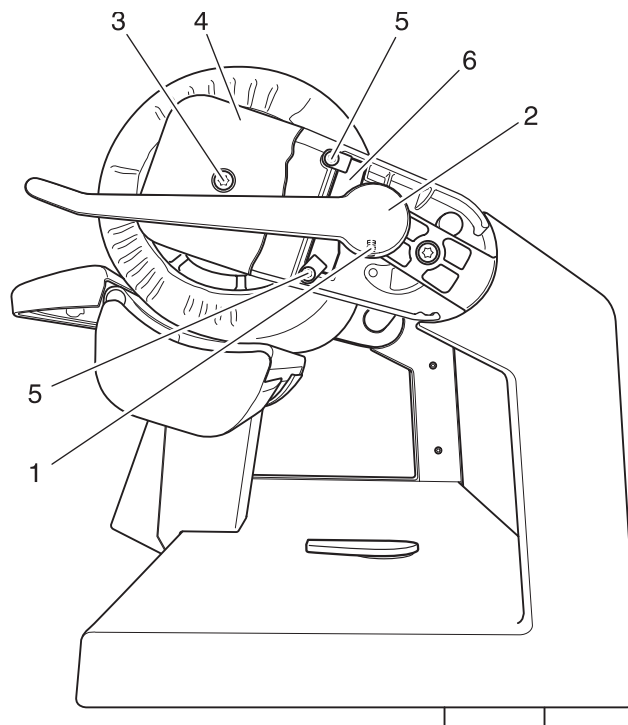

Fig. 20
- With the roller in a raised position and under tension, loosen set screw 1 and remove lever 2 (fig. 20).